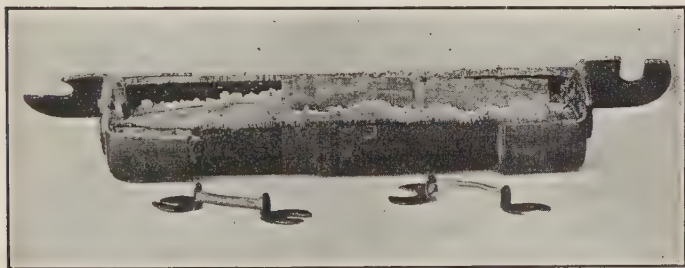

FIGURE 415. — ELECTRIC FUSES.
**275. Fuses.** — Electrically generated heat is used as a safeguard against an oversupply of heat from the same source. The explanation of this apparently contradictory statement is found in the use of fuses. A fuse is a piece of lead or lead-alloy wire placed directly in the circuit to be protected (Figure 415). Lead is used because of its low melting point.